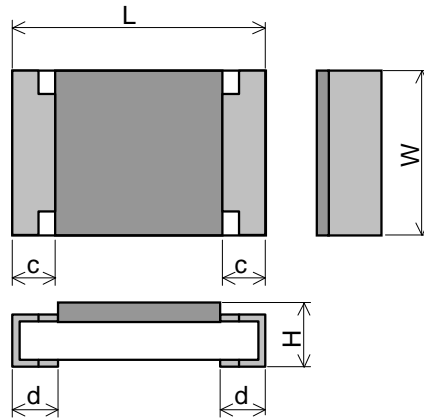

Figure-2
5.1 The resistor shall be of the design and physical dimensions in accordance with Figure-2 and Table-3.